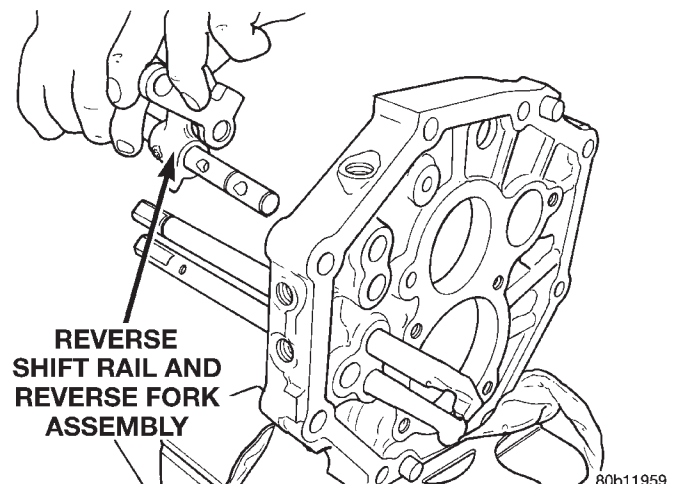

Fig. 70 Remove Reverse Shift Rail
- (27) Remove reverse shift rail and reverse shift fork and arm assembly from intermediate plate (Fig. 70).